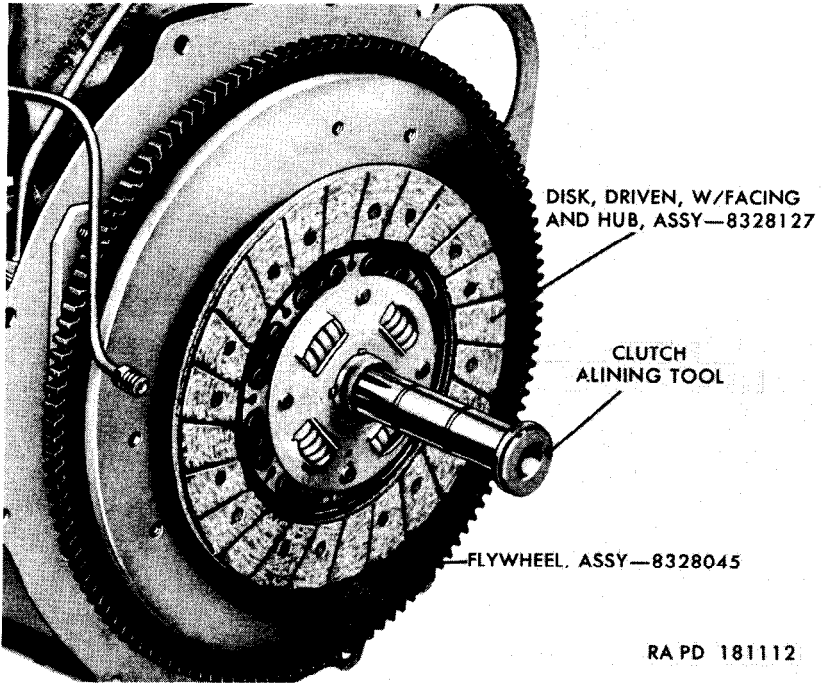

Figure 101. Installing clutch driven disk w/facings and hub assembly.
a. Obtain an input shaft from a scrapped transmission and cut off the integral gear from the end of the shaft. Using the shaft as an improvised clutch alining tool (fig. 101), position the driven disk with/facings and hub assembly against the engine flywheel with the hub extension of the disk facing away from the flywheel.